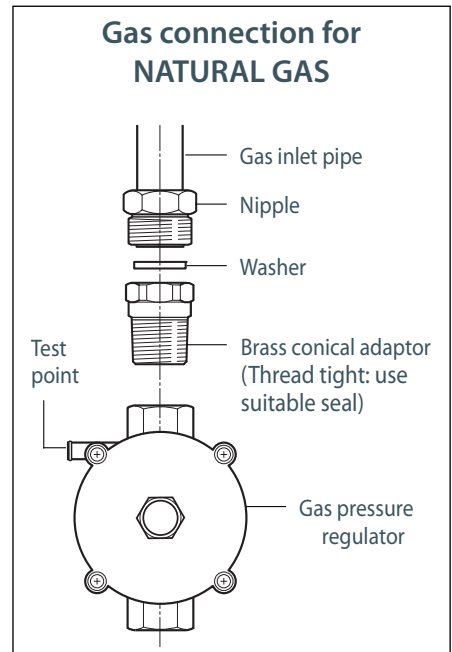

Fig. 22 Natural gas connection
- For Natural gas, connect the gas supply to the gas pressure regulator which is supplied with the appliance (Fig.22). Adjust the regulator to obtain a test point pressure of 1 kPa with the two semi-rapid burners operating at the maximum.